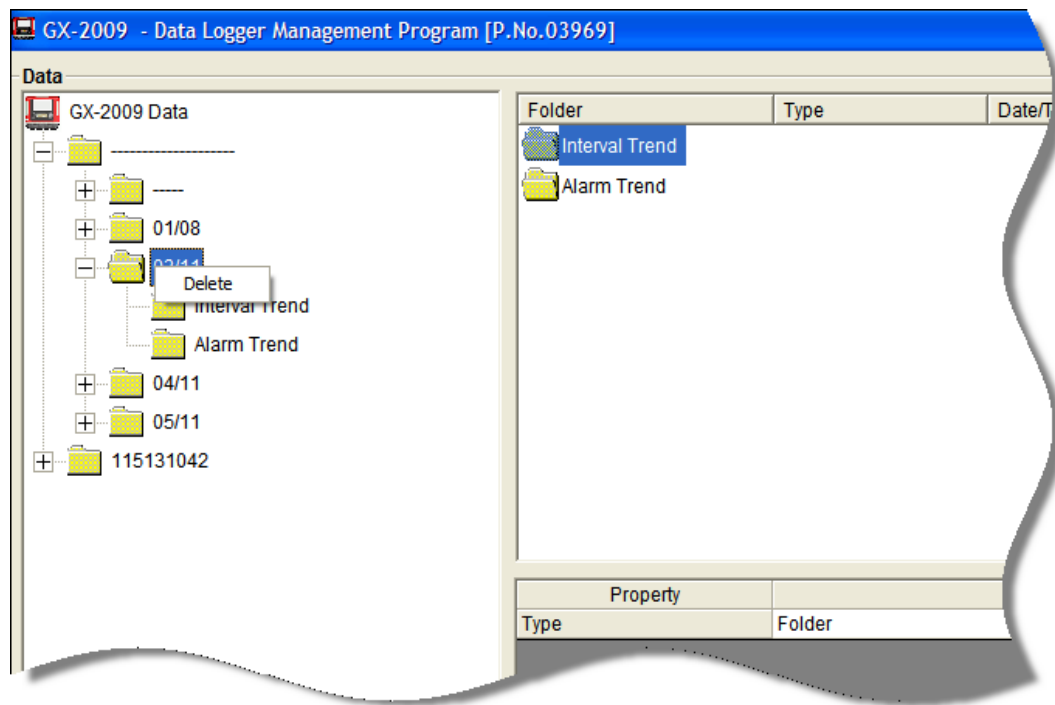

Figure 44: Delete Box
6. When the password has been entered and **Continue** clicked, the Delete Data Window (if a folder is selected for deletion) or Delete Sample Window (if a file is selected for deletion) will appear asking you to confirm that you want to delete the selected folder or file. In the example below, the Delete Data Window appears because the data folder shown in Figure 44 has been selected for deletion.